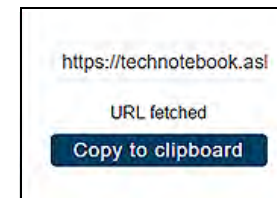

Figure 14-14
1. Select the **Menu** icon (*Figure 14-14*) from the upper toolbar.
3. Select **Copy to Clipboard** (*Figure 14-14*) from the pop-up window.